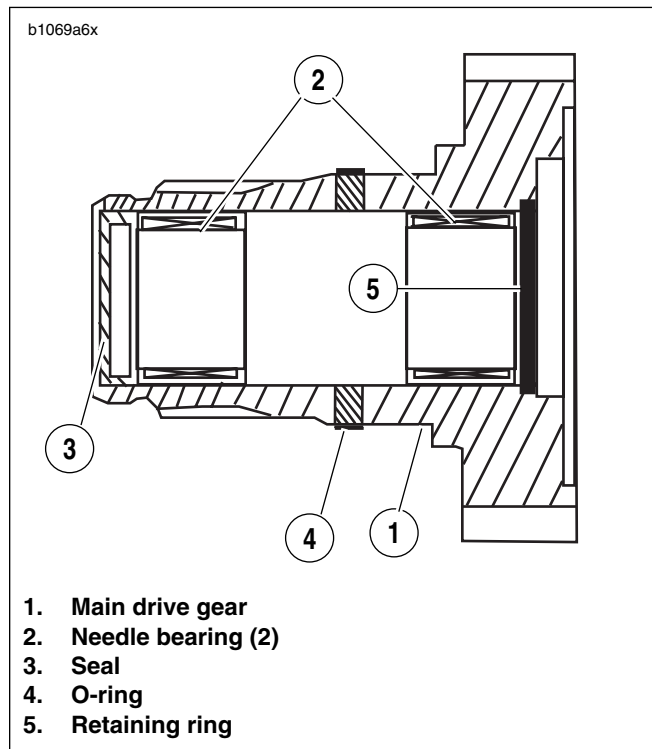

Figure 6-66. Main Drive Gear Assembly
3. See Figure 6-66. From inside case tap out seal at end of mainshaft 5th gear. Discard seal.
1. See Figure 6-66. Remove and discard retaining ring (5).
2. Drive out needle bearings (2) from inside bore of main drive gear (1) using appropriate bearing and bushing puller. Discard bearings. Do not reuse bearings after removal.
3. Remove o-ring (4) from outside of main drive gear and discard. Do not reuse o-ring after removal.